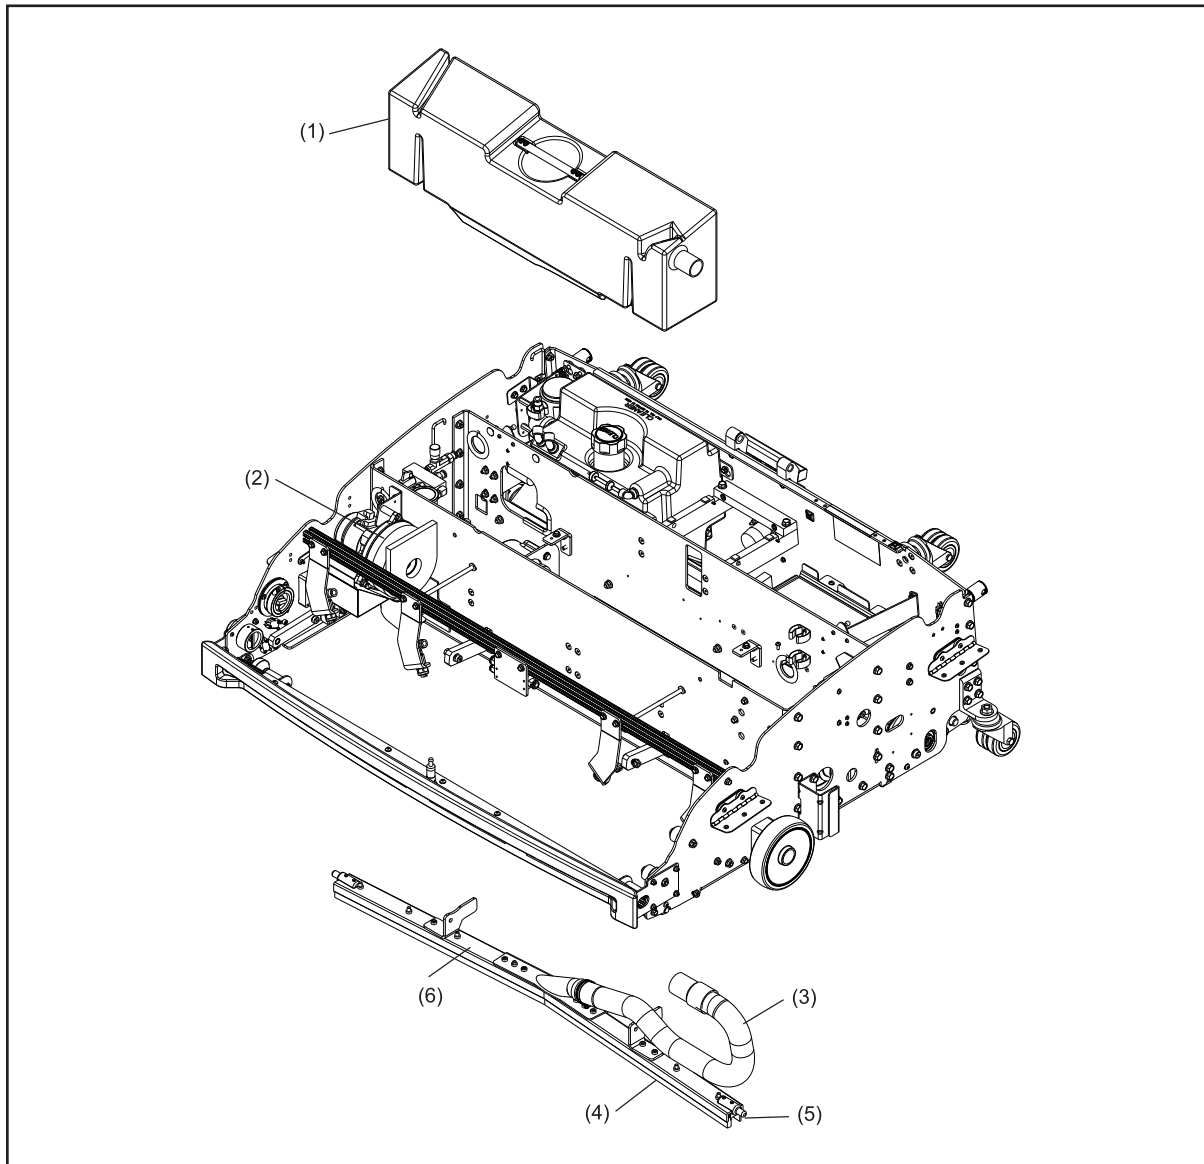

Figure 7-4. Cleaner Vacuum System
3. The absorbent wiper agitates the cleaning fluid on the lane to help loosen dirt and conditioner. Refer to *Figure 7-4*.
4. The squeegee assembly and vacuum remove cleaner and conditioner from the lane surface and collect it in the waste recovery tank. Refer to *Figure 7-4*.